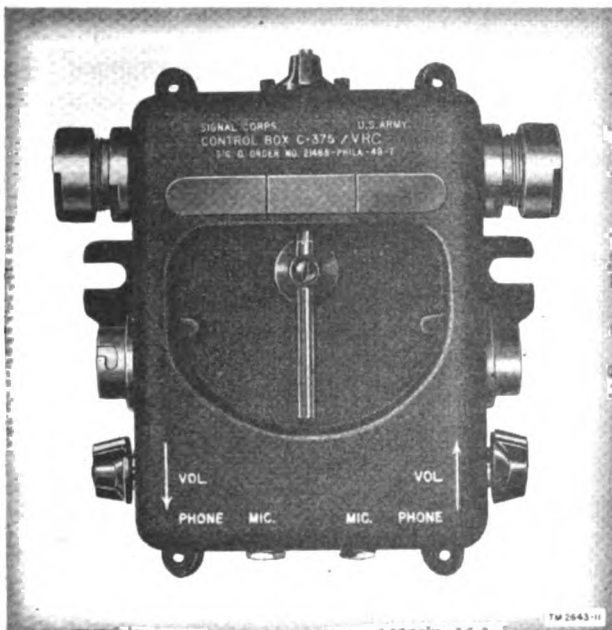

Figure 8. Control Box C-375/VRC.
a. One or more of Control Boxes C-375/VRC (fig. 8) is used in every installation of the radio sets described in this manual. One unit is supplied with the basic radio set; additional units may be supplied in the installation kits (par. 8).